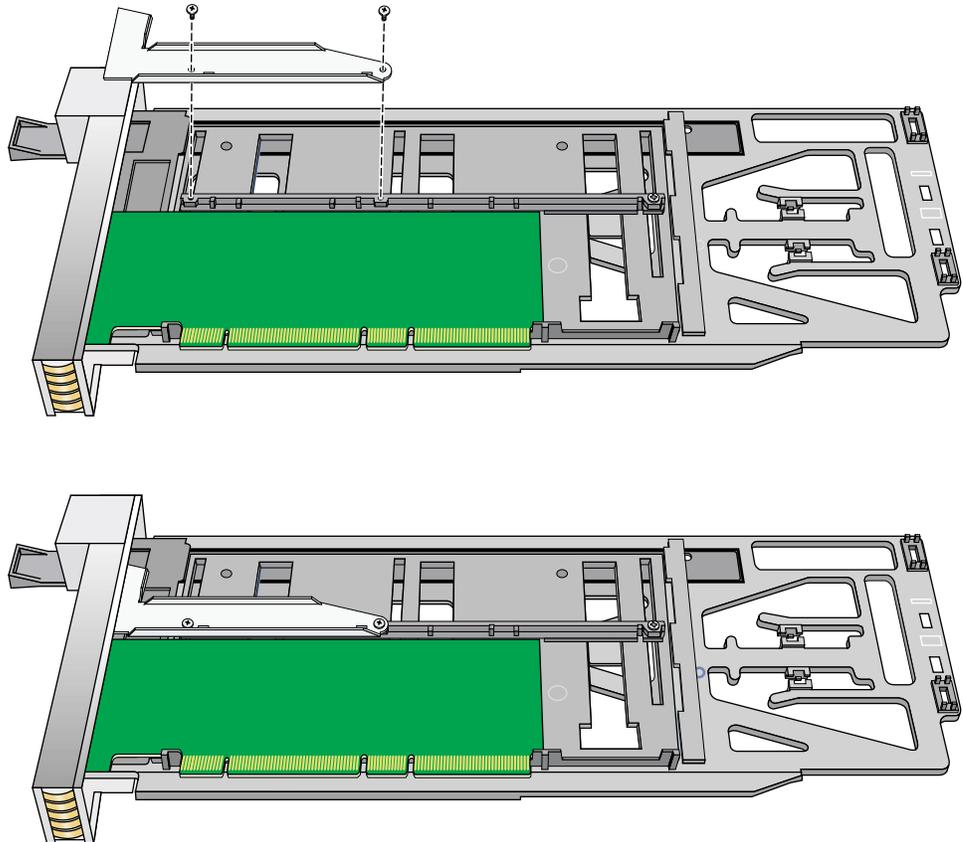

Figure 3 Installing Bracket to Secure Half-height PCI Card
5. Place the PCI card bracket so that the screw holes of the bracket align with the empty screw holes of the alignment rail, as shown in Figure 3.